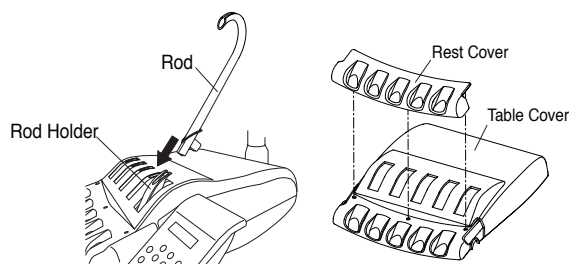

Fig.5-21 Rod and Rest Cover
(7) Rod and Rest Cover for Rod Type (Fig.5-21)